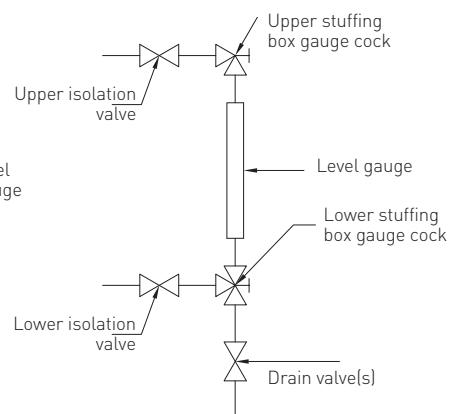

FIGURE 2B
5.2.2 Gauges with Stuffing Box (B/S) Gauge Valves and Isolation Valves (Figure 2B)